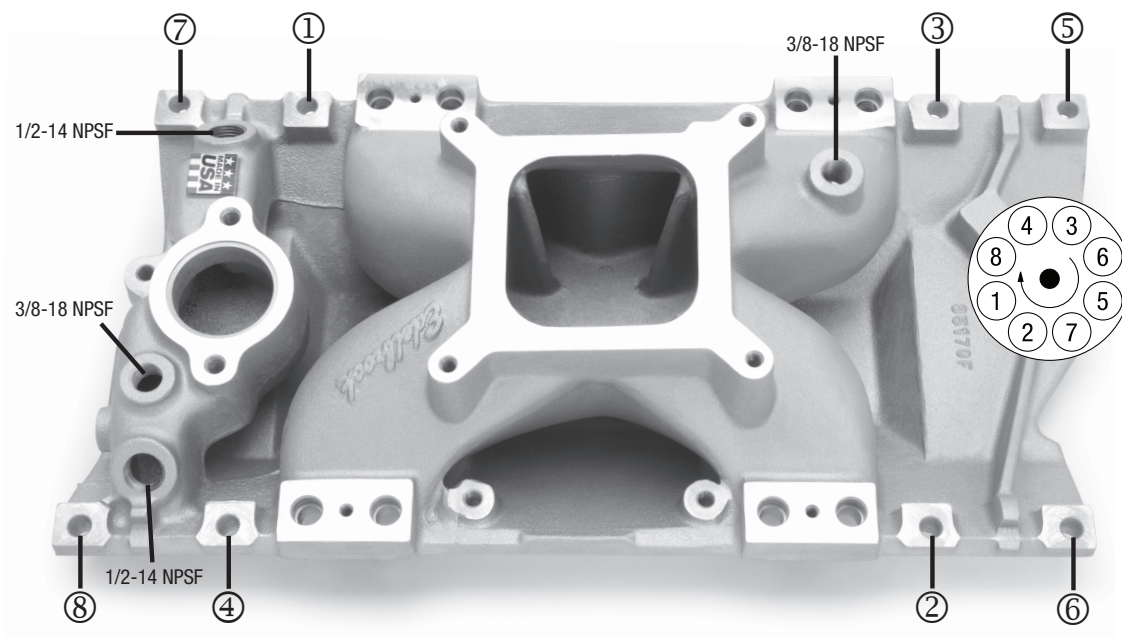

Figure 1 - Vortec/E-Tec Manifold Bolt Torque Sequence
5. Install the intake manifold and hold-down bolts. On applications with Vortec or E-Tec cylinder heads, torque all of the manifold bolts in two steps by the sequence shown in **Figure 1** to 11 ft/lbs.